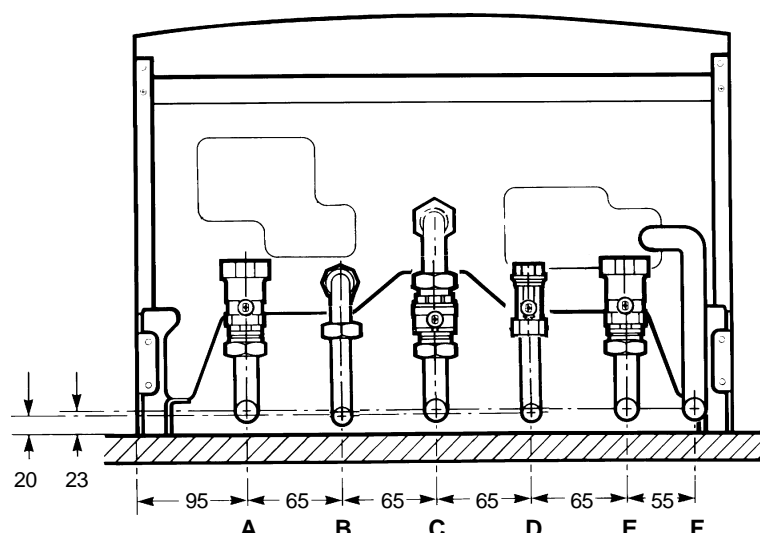

Fig. 11
4.5 CONNECT THE PIPEWORK - Fig. 11
2. Ensure the 22 mm isolating valve with the filter is fitted to the heating return connection. (Refer to Fig. 11).
2. Open the central heating flow and return valves (spindle flats in-line with valve) (see Fig. 11).
8. Open the mains water inlet valve (see Fig. 11). Turn on all hot water taps and allow water to flow until no air is present. Turn off taps.